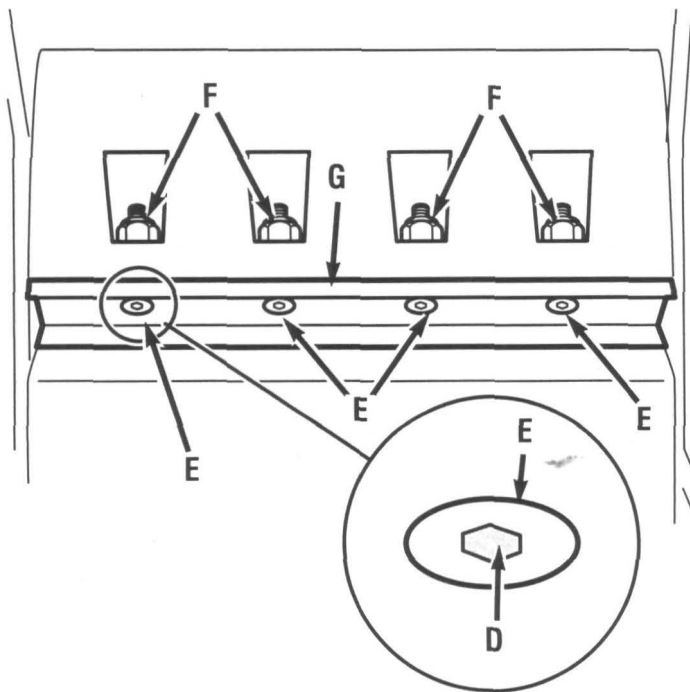

Fig. 4
- Carefully clean the chipper knife seats (K, Fig. 4) on the chipper drum, before securing the knives to the chipper drum. If this surface is not clean, the knives will not lay flat, and damage to the unit and poor chipping performance could occur.